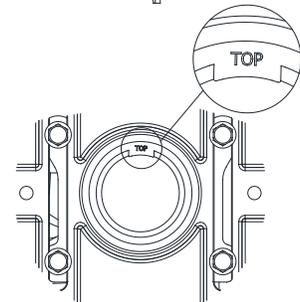

Figure 11d
- ii. Prep the coupling end and flange, following the PVC Cement manufacturer's instructions. Glue flange to pipe with "TOP" properly aligned. See Figure 11d.